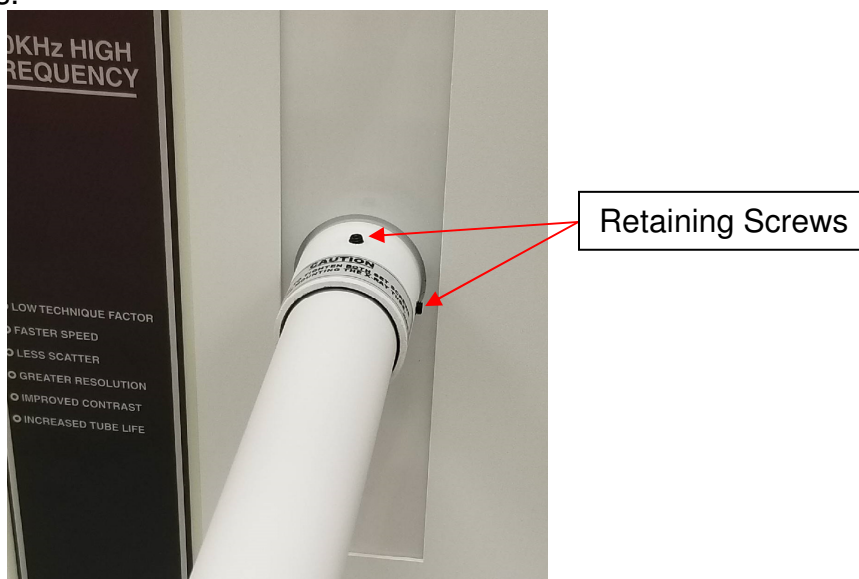

Figure 12: Tube arm Retaining Screws
1. Insert the 1.5" diameter tube arm into the collar on Tubestand as shown in Figure 12 below. Be sure to fully insert the tube arm and secure it with the two retaining screws.
4. Insert the 1.5” diameter tube arm into the collar on Tubestand as shown in Figure 12. Make sure the tube mount is in the beam-down position and that the tube arm is fully inserted into the tube arm. Secure the tube arm with the two retaining screws.